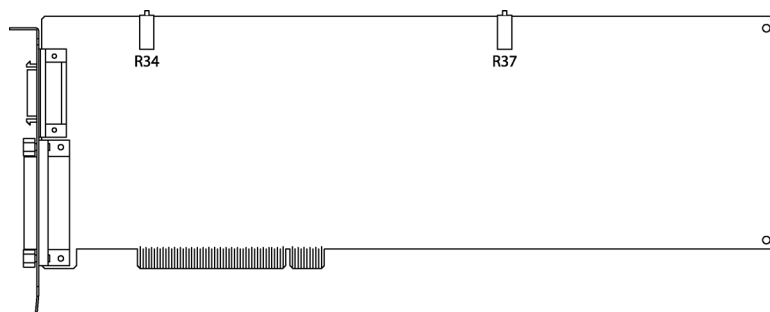

Figure 8-13 IVP PCBA
3. Locate the IVP PCBA, and note the position of R34 and R37; see Figure 8-13.